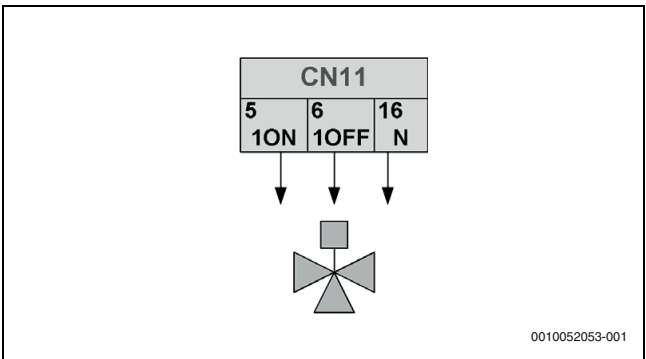

Fig. 78 3-way valve SV1, type 2 control signal
- Read the 3-way valve use and installation manual carefully and install the valve as shown in the figure 78.